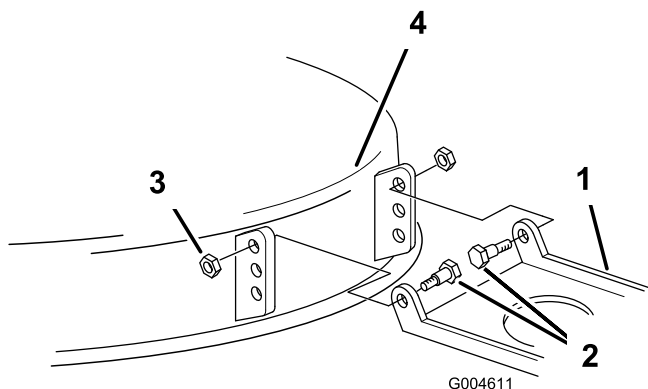

Figure 46
20. Lower the mower pivot a hole and install the shoulder bolts and locknuts (Figure 46).
18. If you cannot get a 1/4 to 5/8 inch (6 to 16 mm) front slope by rotating the slope adjusting nut, move the mower pivot mount at the mower (Figure 46).
19. Remove the shoulder bolts and locknuts from the mower (Figure 46).